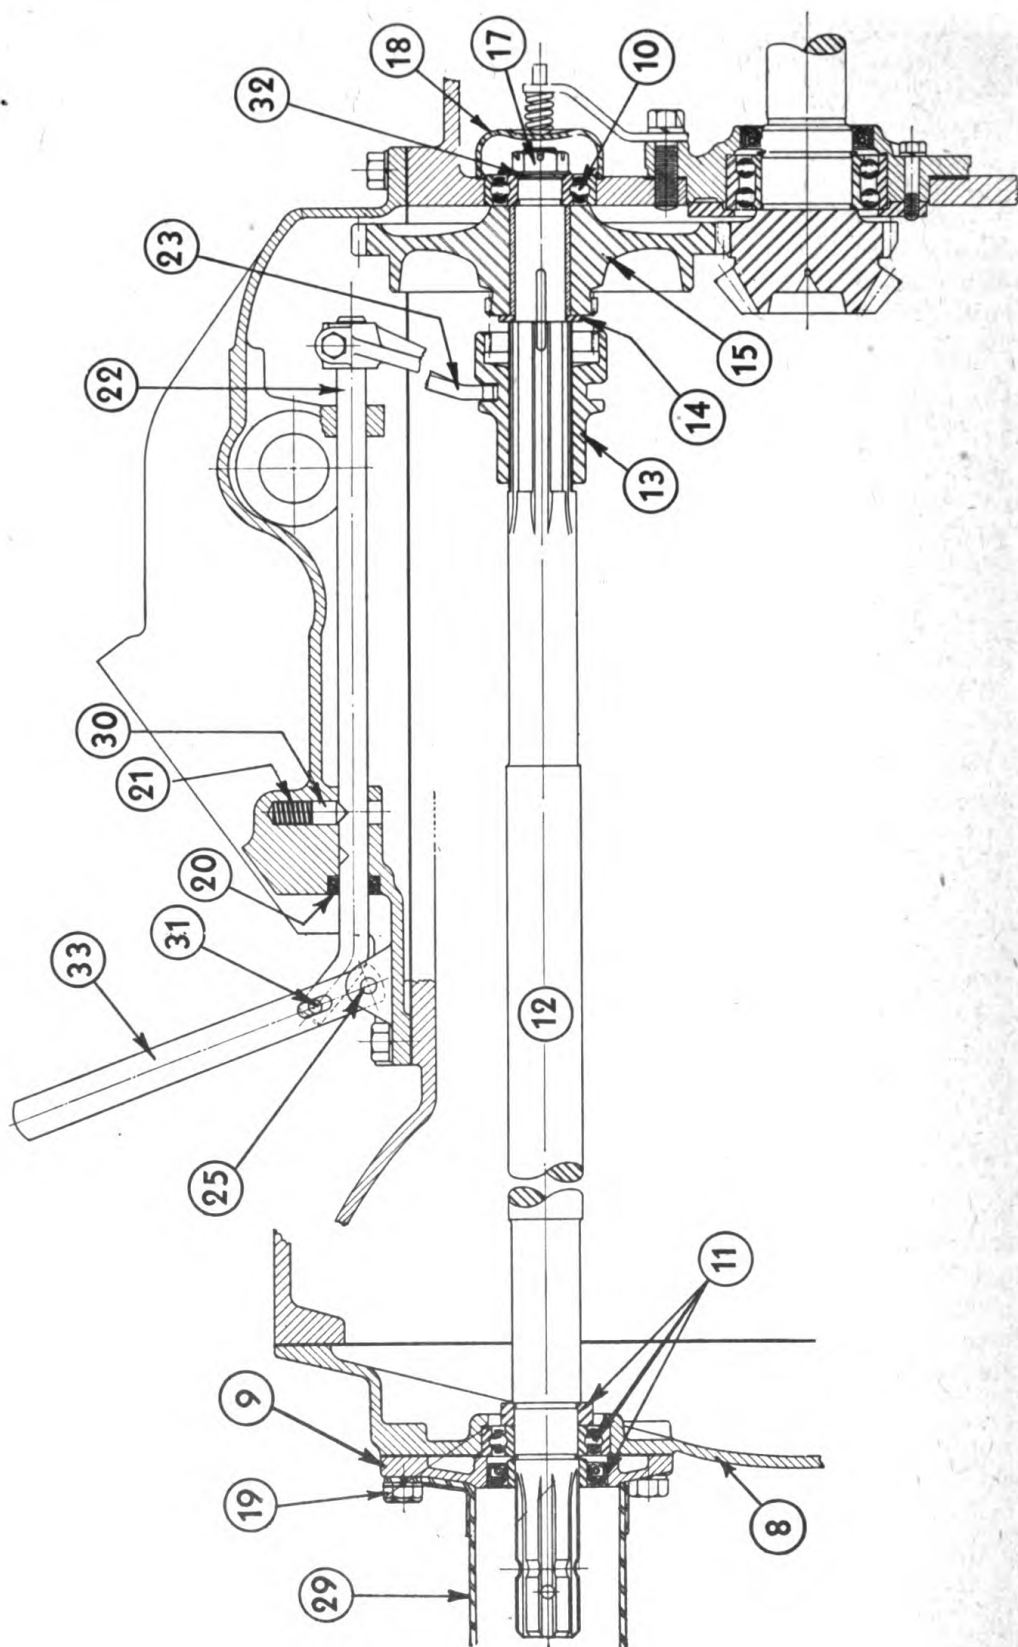

Fig. 42. Power Take-off
The "DI" Series Tractor is furnished with an A. S. A. E. standard $1\frac{3}{8}$ " power take-off spline. The power take-off shaft is put into operation by meshing the power take-off gear clutch 13 Fig 42 with the power take-off gear 15. This is accomplished by pushing the power take-off shifter, shown as 8 Fig. 3 toward the instrument panel with the clutch disengaged. The power take-off is stopped and started by means of the main tractor clutch. At the normal full load engine speed of 1200 R. P. M. the power take-off shaft speed is 540 R. P. M.
TO INSTALL POWER TAKE-OFF (See Fig. 42)
To install, drain the transmission oil and remove the rear transmission cover shown at (8) Fig. 42. Scrape the old gasket surface clean, assemble new gasket and transmission cover.
Put ball bearing (10) Fig. 42, in front end of transmission case. Place collar, bearing and spacer (11) on large end of power take-off shaft. Place shaft (12) in transmission case until small end is over the bevel pinion on the clutch shaft. Slip gear clutch (13) over end of shaft and on the splines as shown. Put on thrust washer (14), Fig. 42, making sure that rounded edge of washer is toward the spline on the shaft. Put on the drive gear shown at (15). Drive the shaft (12) into the front bearing (10), making sure that the bearing is up against the shoulder on the shaft.
Mark the end of the shaft to show the location of the cotter pin hole. Assemble washer (32) and tighten nut (17) to hold bearing snug on shaft. Put in the cotter pin and spread it. Put on steel cover (18) using the provided gasket to make an oil tight joint. Put on the transmission rear end cover cap (9) using the four cap screws (19). Remove steel plug from hole (20), Fig. 42, in the front of the top transmission cover and assemble oil seal in this location.